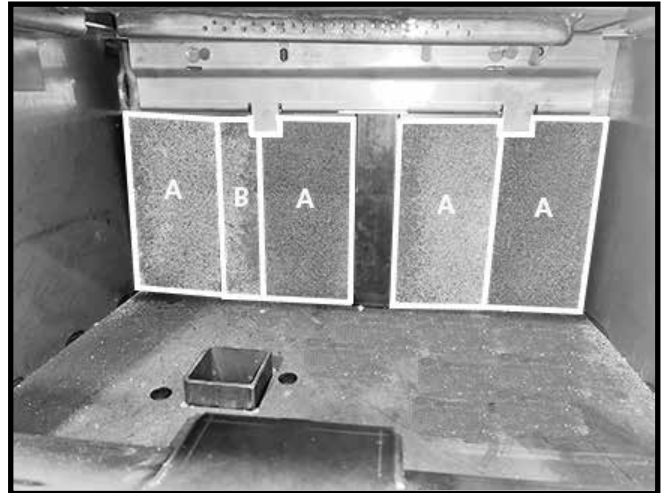

Figure 26: Left side rear wall A and B brick placement.
2. On the left side of the rear wall, stand two "A" bricks with one "B" brick in between them. Slide the bricks toward the center of the rear wall (Figure 26)